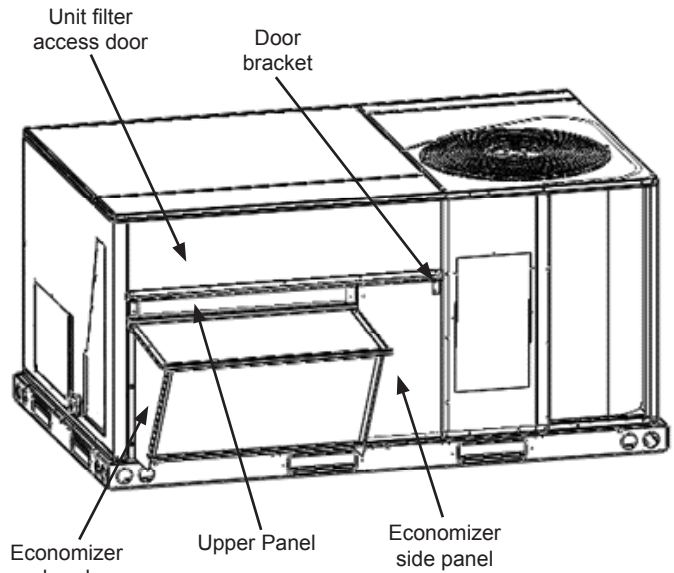

Figure 9
6. Screw hood to unit as shown in figure 9.
2. Install side panel to the right side of hood, see figure 9. Screw panel to economizer on left side, and into door bracket on right side of panel.